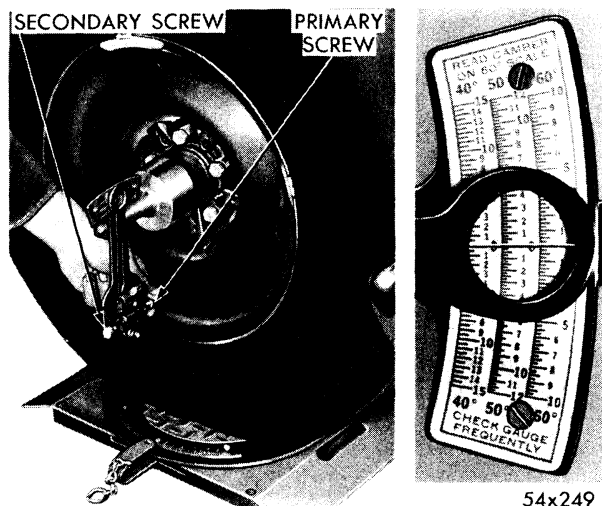

Fig. 75—Checking Camber (Tool C-3409)
- (1) Be sure king pin inclination (6½ to 8 degrees on Model C-70 and 5 to 6½ degrees on all other models) is correct. Refer to Paragraph 36, King Pin Inclination. Place front wheels in straight-ahead position with weight of car on wheels and front end of car level.
- (2) With gauge assembled on wheel, as shown in Figure 75, adjust secondary screw on quadrant assembly so that pointer, which is just above the spirit level, is on scratch mark.
- (3) Adjust primary screw so that spirit level bubble is centered.
- (4) Take camber reading in degrees on scale. Use 60 degree section of scale on quadrant assembly of gauge for checking camber. If wheel is not true, turn it 180 degrees and take another reading. Average the two readings to obtain camber angle.
- (5) Readings from zero toward wheel indicate positive camber. Readings from zero away from wheel indicate negative or (reverse) camber.
- (6) Check camber of opposite wheel in the same manner.